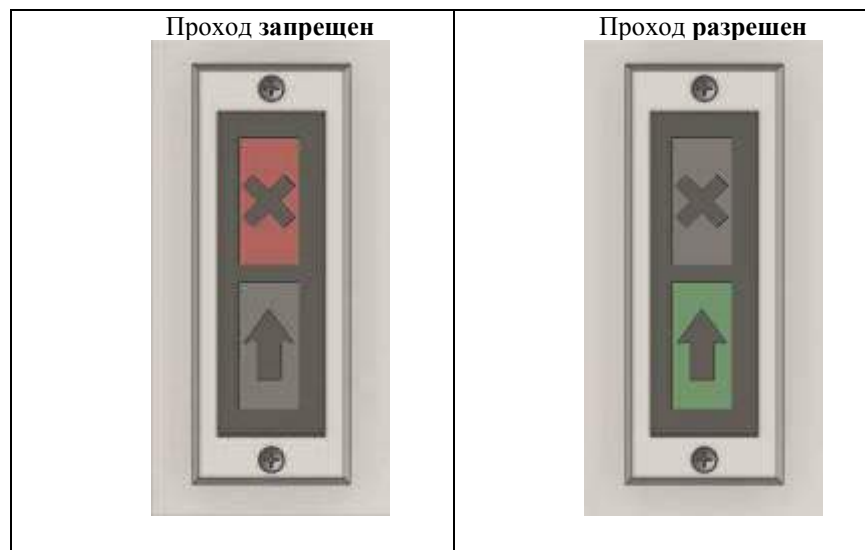

Figure.2 - Displays of the status of a turnstile to indications
1.4.2.3 As soon as rotor starts revolving the red symbol « X » is lit on the LED display (Figure.2).